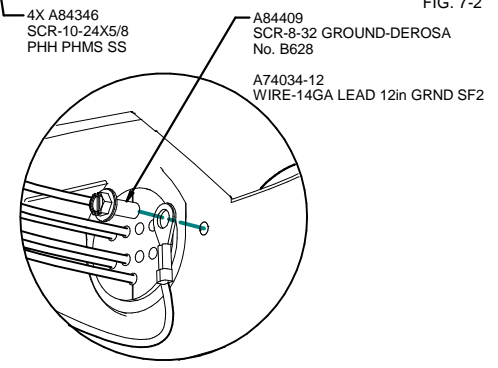

FIG. 7-2B
3. INSTALL THE GREEN WIRE WITH A RING TO THE #8-32 THREADED HOLE ON THE TOP CASTING, NEXT TO THE GROMMET (FIG 7-2B) AND CONNECT TO GROUND LEADS.